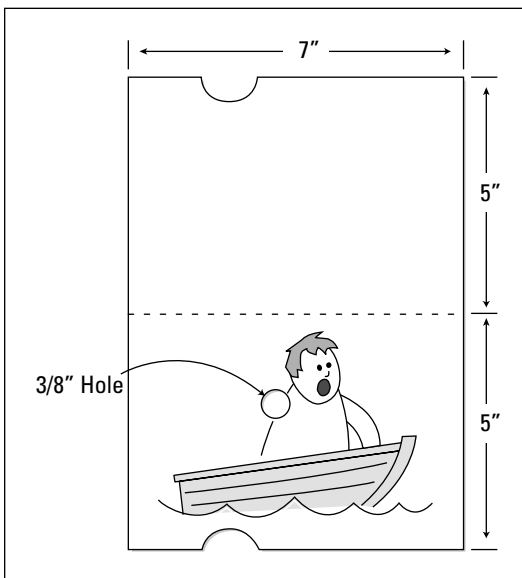

Figure 7-3:
1. Mark out the card as Figure 7-3 shows; draw the character in the boat with a black felt-tipped pen and color it in.